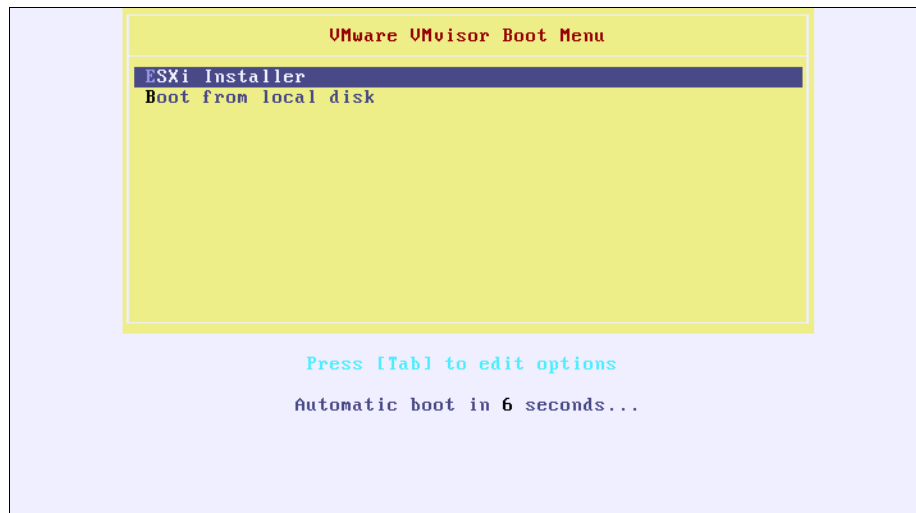

Figure 3-86 Selecting the Installation process
7. After booting from the DVD, select the ESXi Installer, as shown in Figure 3-86, to start the installation. ESXi installation already has the drivers required. It is able to identify the DS8000 LUNs, then install and configure the multipath tools without any additional tasks.